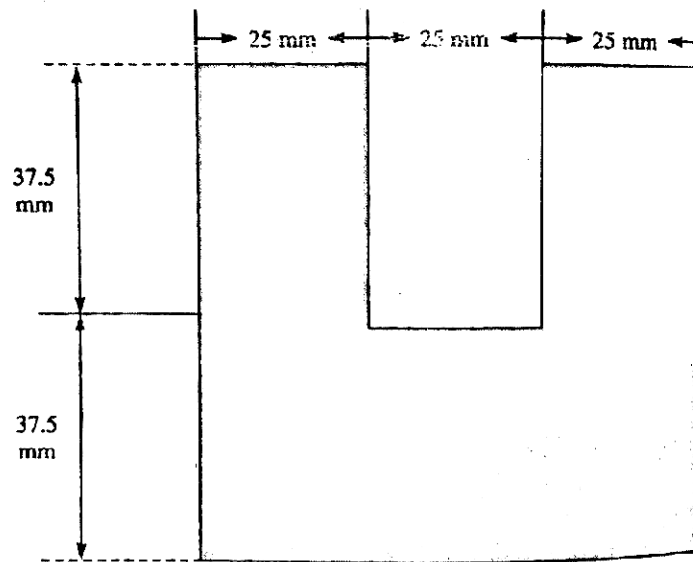

Fig. 5
4. (a) Calculate the shear stress at the salient positions and also draw the shear stress distribution diagram for the beam section shown in Fig. 5. [6]